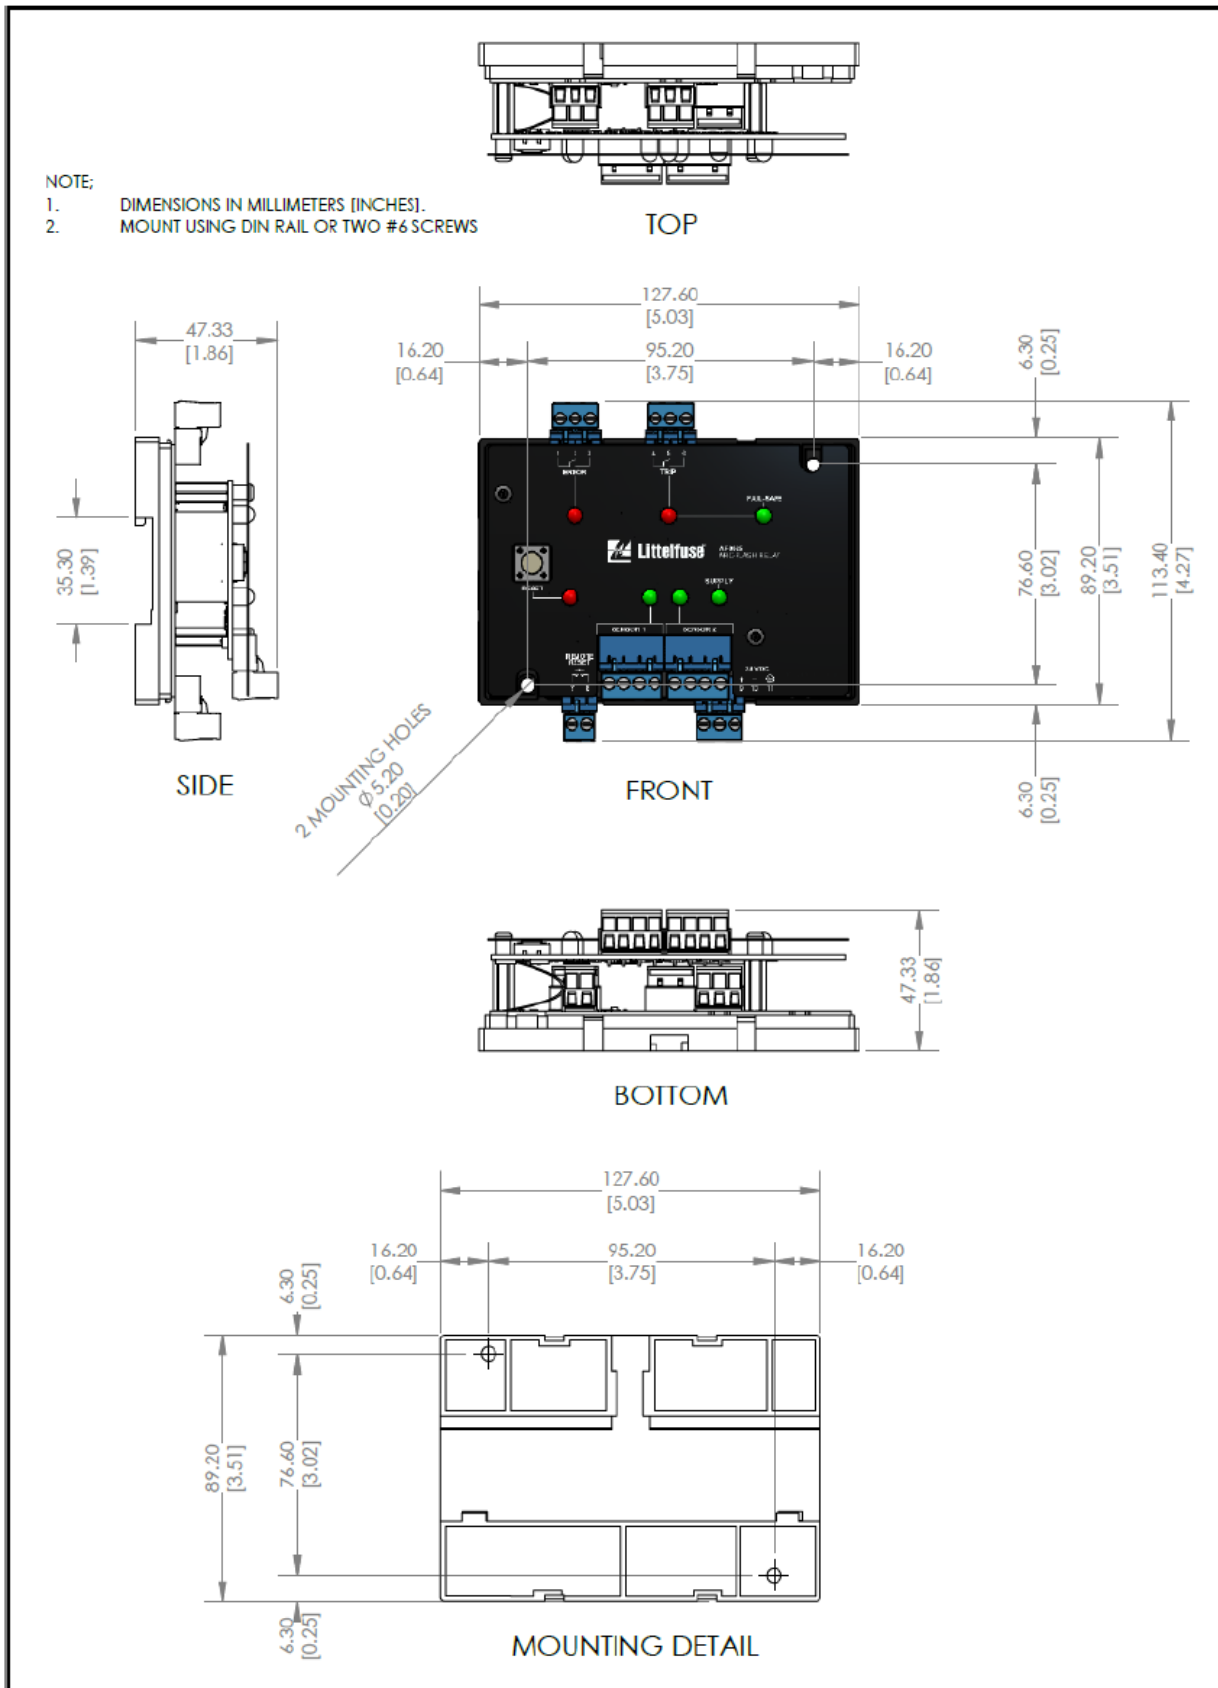

FIGURE 2. AF0025 Outline and Mounting Details.
- 1. Install AF0025:** The AF0025 can be surface or DIN-rail mounted. See Fig. 2.